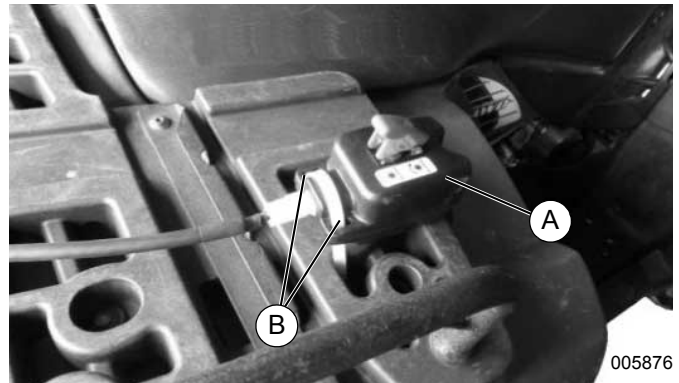
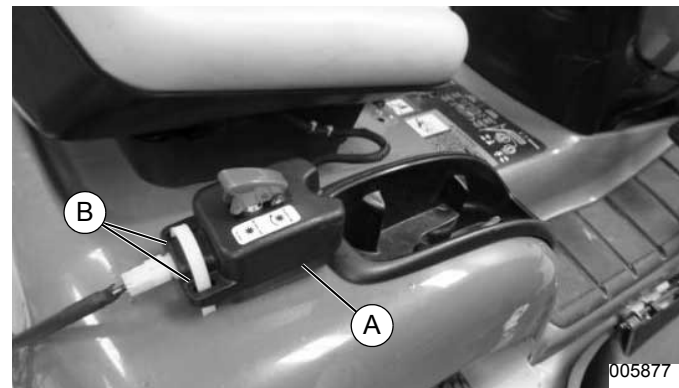

Figure 2-17. ATV Seat
Figure 2-18. Mower Seat
1. See Figure 2-17 and Figure 2-18. Position blade engage/disengage remote control (A) on tow vehicle within easy reach of seated driver.